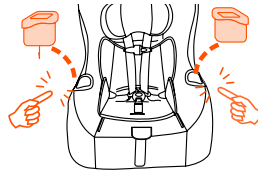

Fig. 47b
- Press tab on bottom of cup holder to release cup holders and pull up to remove (Fig. 47b).
- Pull car seat cover back to expose cup holders receptacle (Fig. 47b).